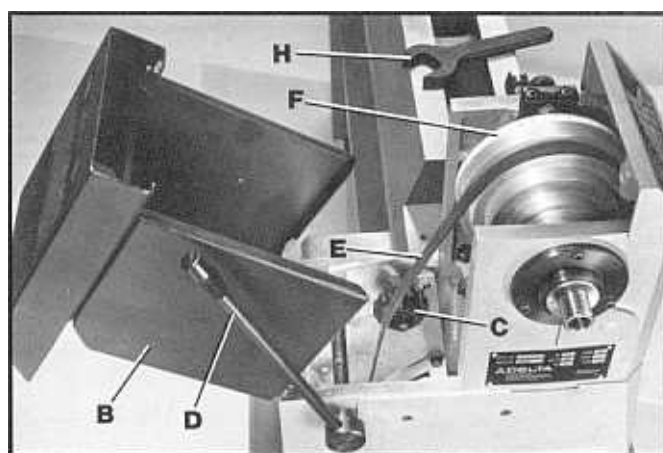
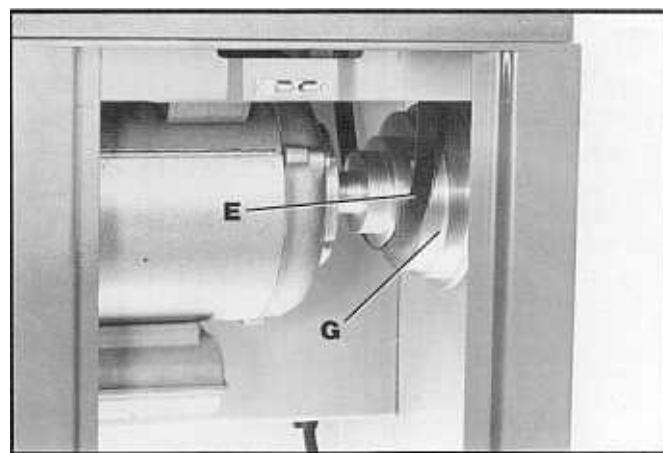

Fig. 34
Fig. 35
2. Open headstock cover (B) Fig. 34, by pushing it to the rear as shown. Also remove rear door from headstock cabinet.
3. Loosen hex head knob (C) Fig. 34, with wrench (H) supplied and push belt tension lever (D) to the rear as shown. This will release tension on the belt (E) Figs. 34 and 35, spindle pulley (F) Fig. 34 and motor pulley (G) Fig. 35.